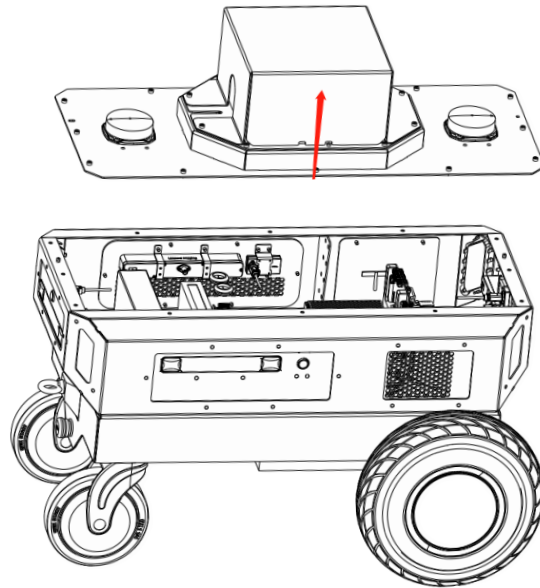

Figure 3
3. Carefully tilt open the lid enough that you can reach in, taking care not to pull on any cables. Unplug one 3D Lidar and two 2D Lidar cables and remove the top cover assembly as shown in Figure 3.